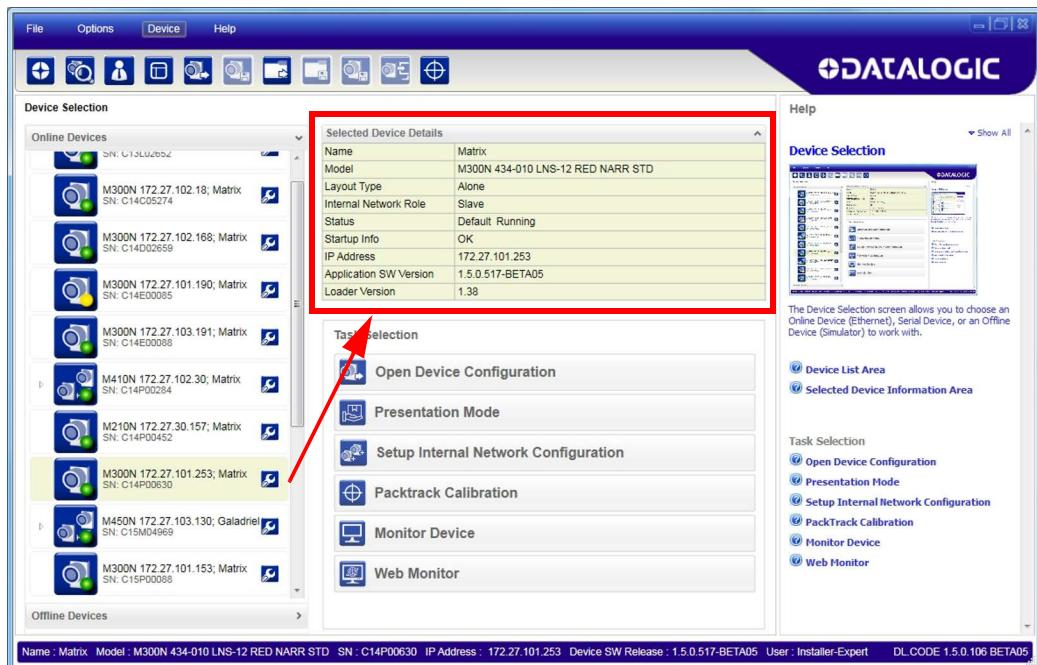

**Figure 4 – Device Environment Configuration Window**
3. Change the Ethernet Settings (IP Address, Subnet Mask, Gateway Address etc.) according to the network requirements. See also Figure 4 below.